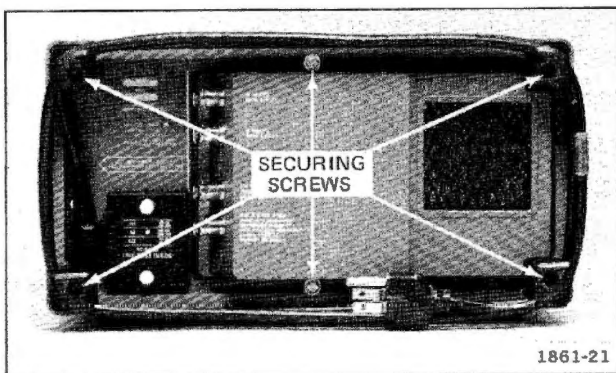

Fig. 4-1. Removing the wrap around cabinet.
3. Remove the 6 screws indicated in Fig. 4-1 and remove the instrument feet and rear ring assembly from the instrument.